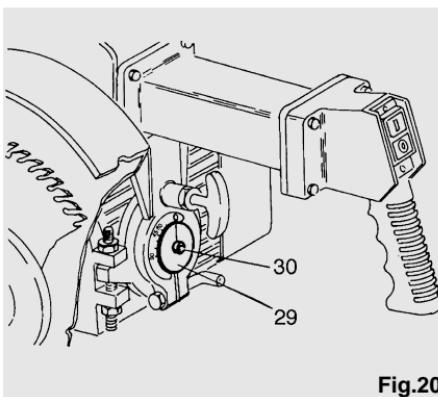

Fig.20
- Once the perpendicularity to the worktable has been obtained, check and if necessary adjust index (29) by loosening screw (30) until the black line is aligned with the zero position (see figure 20).